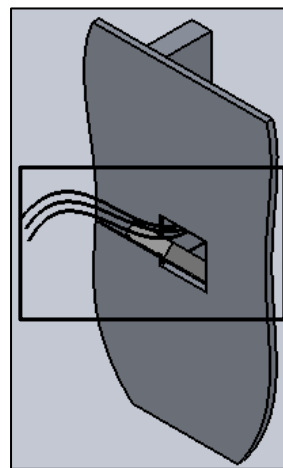

FIG. 16- DRIVER PLATE ASSEMBLY
9. Slide DRIVER PLATE into the box with the driver facing rearward as shown in FIG. 16. As you slide the plate in, make sure you pull the BUILDING SUPPLY connections through the large hole in the DRIVER PLATE and other wires will already be through center hole.